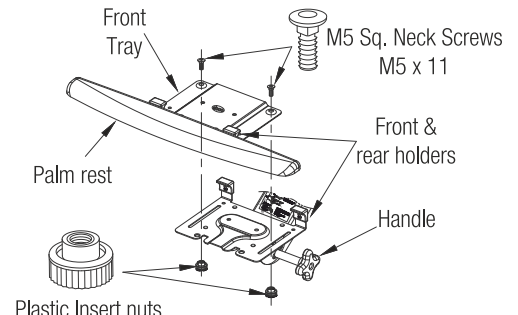

Fig. 4.
4. Fit the Front Tray with M5 x 11 Sq. neck screws and Plastic Insert Nuts. (Ref. Fig. 4)